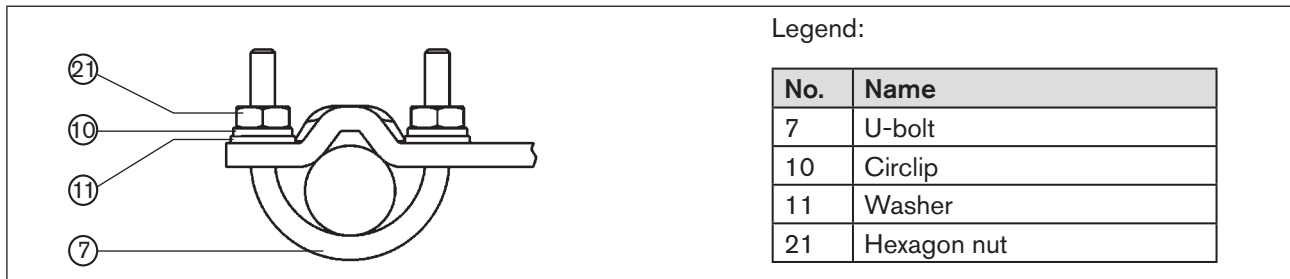

Figure 17: Attach Type 8792/8793 with mounting bracket; for actuators with columnar yoke
→ Attach mounting bracket to the columnar yoke with the U-bolt (7), washers (11), circlips (10) and hexagon nuts (21) (see "Figure 17").